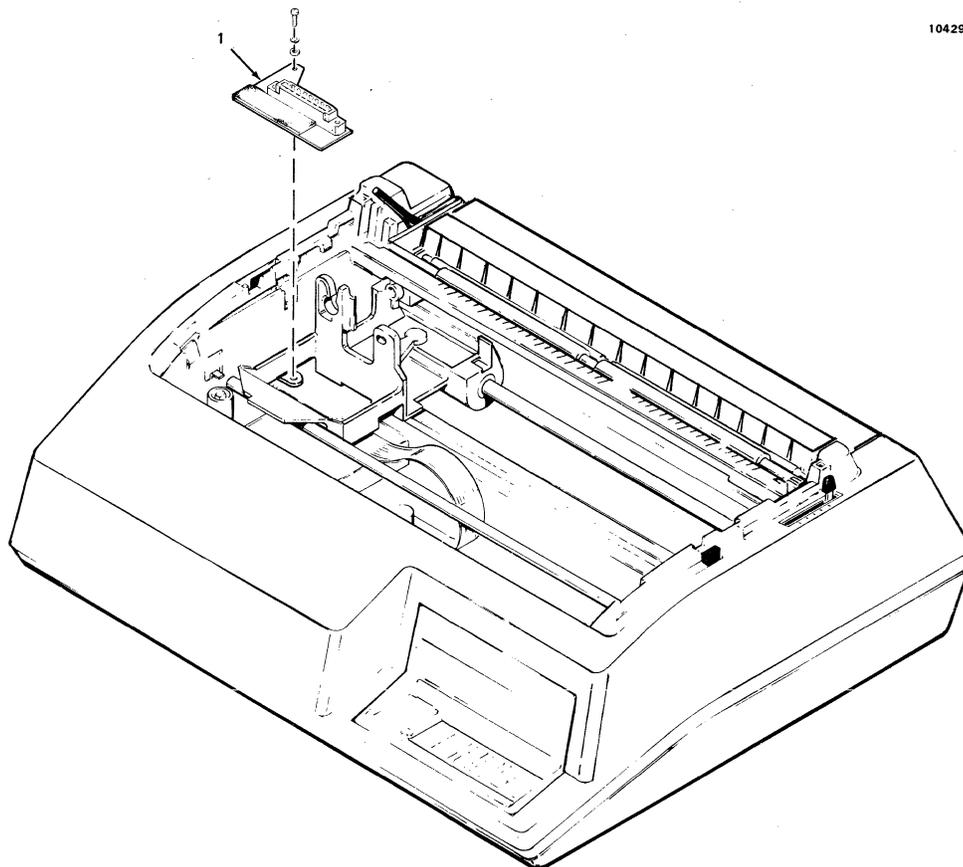

Figure 5-5 Removal/Replacement, Head Adapter PCB
The Head Adapter pcb, item 1 of Figure 5-5, is attached to the carriage assembly and is removed using a Phillips head screwdriver. To remove the Head Adapter pcb, refer to Figure 5-5 and perform the following steps: